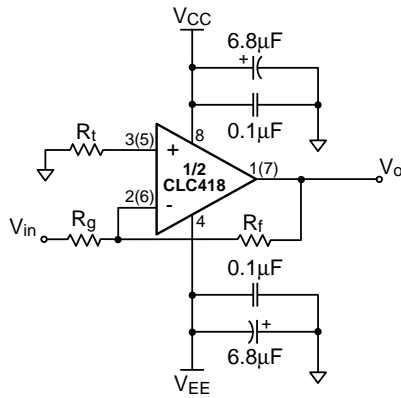

Figure 2: Inverting Gain
The inverting DC voltage gain for the configuration shown in Figure 2 is:  $A_v = -\frac{R_f}{R_g}$
- Place a 50 to 200 $\Omega$  resistor between the non-inverting pin and ground (see  $R_t$  in Figure 2)